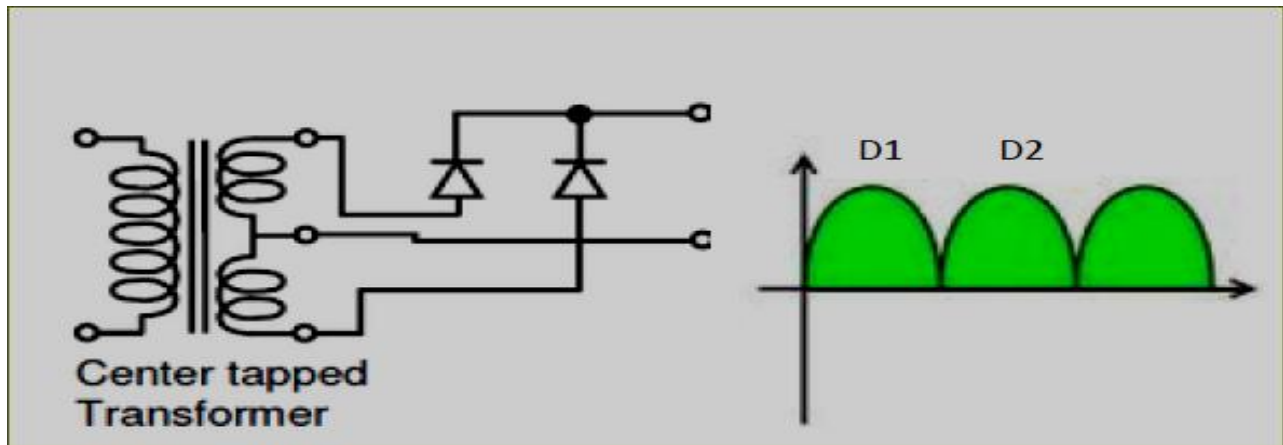

Figure 3. Full-wave rectifier using a center tapped transformer and 2 diodes
A rectifier is an electrical device that converts alternating current (AC) to direct current (DC), a process known as rectification (Akande *et al.*, 2007). A full wave rectifier was used to design the dual polarity (\pm) power supply. This converts both the positive and negative halves of the input waveform to a single polarity (positive or negative) at its output as shown in figure 3.